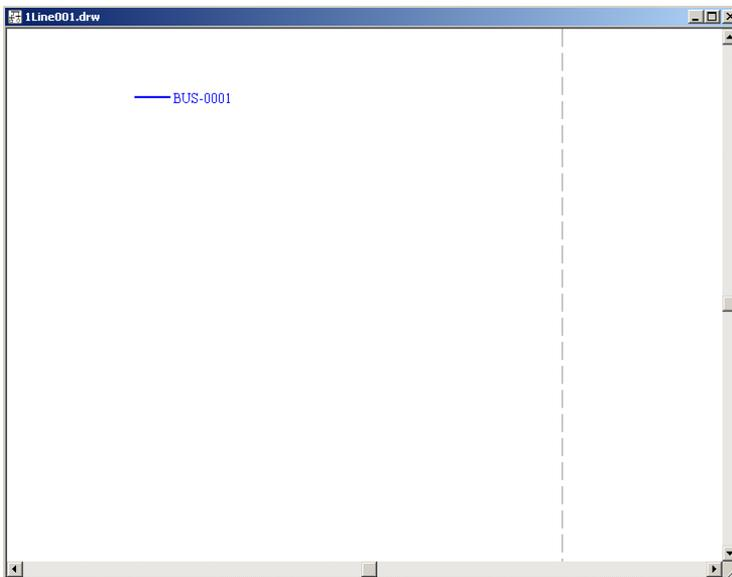

Fig. 7. Add a bus to the One-Line Diagram.
- Let's start by adding a bus to the One-Line Diagram. Click the bus toolbar button. The mouse pointer picks up a new bus component. Move the mouse pointer over the white viewport area of the One-Line Diagram and click the left mouse button again. The mouse pointer puts down, or places, the bus component, as shown in Figure 7. A bus name is automatically assigned (changing names is easy, as we will demonstrate shortly).